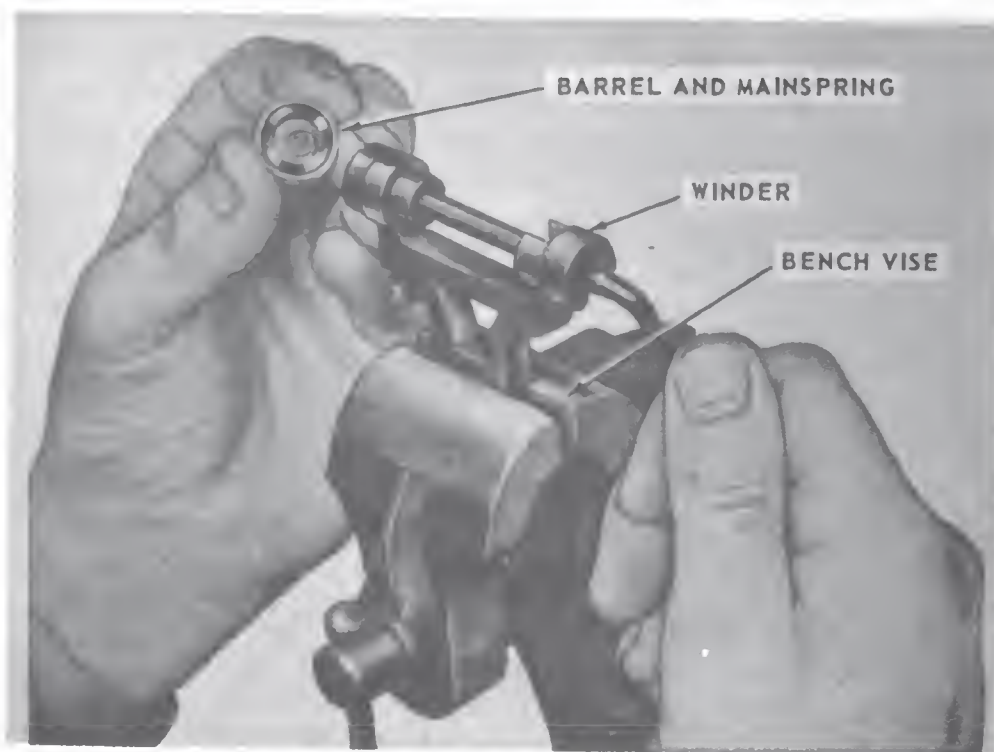

Figure 64. — Assembling mainspring into barrel, using mainspring winder.
*Wind in the mainspring.* — Select the proper mainspring winder and slowly wind the mainspring into it, inserting the mainspring winder into the barrel, hooking the end of the mainspring onto the barrel, and pressing the end of the mainspring into the barrel. (See figure 64.) Then insert the barrel arbor,